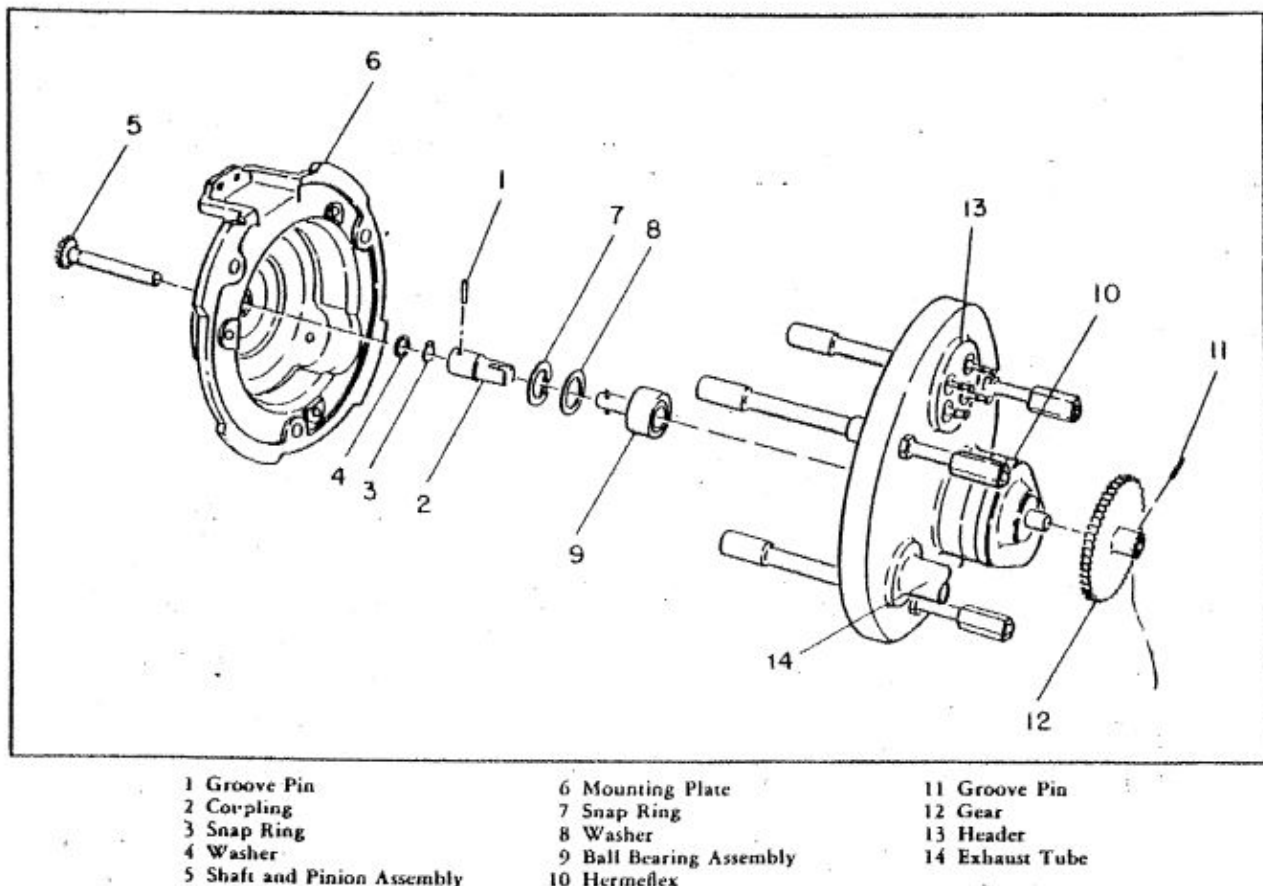

Figure 5-72. Removal of Pinion, Coupling, and Bearing Assembly
1. Remove the groove pin (figure 5-72, reference 1) from the coupling (reference 2) and slide the coupling off the shaft.
1. Inspect the header (figure 5-72, reference 13) for cracked or chipped glass and bent terminals. If the header is damaged, unsolder it and soft solder (63-37 rosin core solder) a new header in its place using a 200-watt soldering iron. Carefully examine the soft soldered joint around the header.
1. Clean the dial gear (figure 5-70, reference 6) and pinion (figure 5-72, reference 5) with a glass or fibre brush. A gear which is worn or damaged must be replaced. If the pinion gear is damaged, it will be necessary to replace the pinion, the shaft, and the groove pin as a unit. If the coupling (figure 5-72, reference 2) is worn or damaged, replace the coupling, the pinion, the shaft, and the groove pin as a unit.
(5) REASSEMBLY.
1. Insert the shaft and pinion assembly (figure 5-72, reference 5) through the hole in the mounting plate. (See reference 6.)